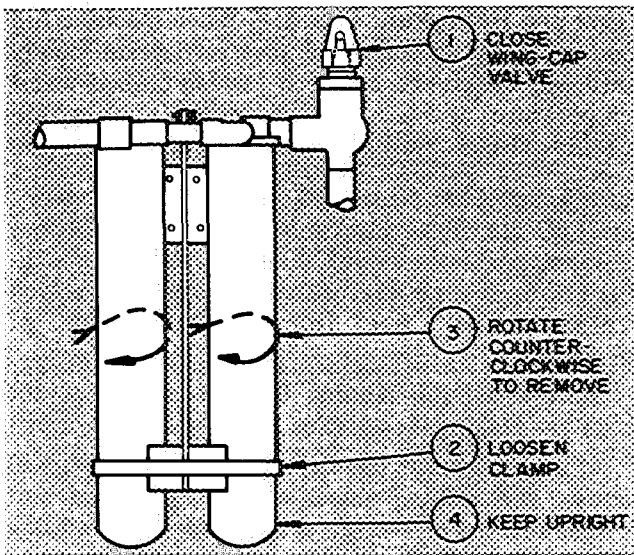

Fig. 6 – Removing the Oil Filters
2. Close the wing-cap valve (Item 1, Fig. 6) to isolate the oil filter(s).
3. Loosen the filter-holding clamp near the filter bottom (Fig. 6).
4. Rotate filter body counterclockwise to remove, as indicated by arrows in Fig. 6. Keep the filter body upright when removing to avoid oil spill.